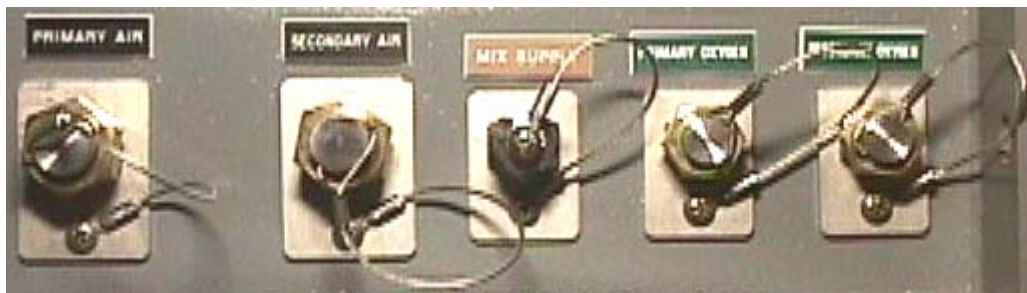

Figure 3-15. External Compressed Gas Supply Connections
**3-2.6.4 External Compressed Gas Supply Connections.** Mounted on the outer wall of the SNDLRCS van are connections for primary and secondary oxygen supply, mixed gas supply, and primary and secondary HP air supply (see Figure 3-15). These connections allow HP air, oxygen and/or